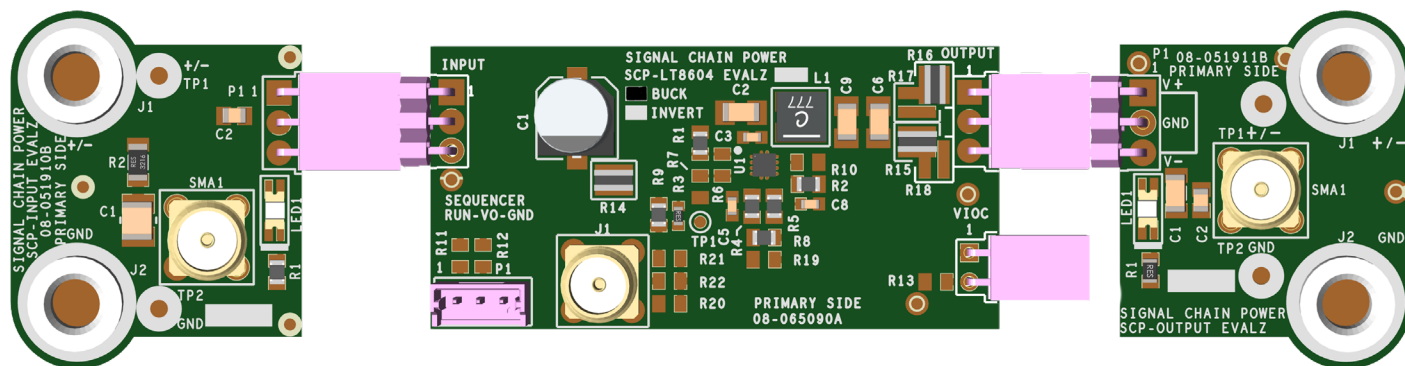

Figure 2. Proper Measurement Equipment Setup (Use SMA connectors for Measuring Input or Output Ripple)
Demonstration circuit SCP-LT8604C-BEVALZ is easy to set up to evaluate the performance of any SCP hardware configuration. Refer to Figure 2 and follow these steps:
2. Connect the SCP-INPUT-EVALZ and SCP-OUTPUT-EVALZ boards to the SCP-LT8604C-BEVALZ (refer to Figure 2) and connect the input board to a voltage source, V_{SOURCE} . Connect the output board to a voltmeter or dynamic load. Slowly raise the input voltage until the SCP-LT8604C-BEVALZ powers into regulation and sweep V_{SOURCE} through the desired range of operation.